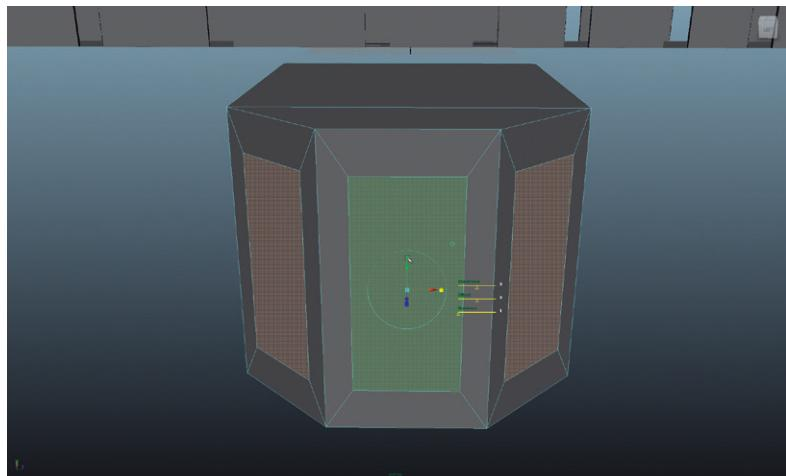

FIG 3.26 Extruding windows.
Step 41: Use the Extrude Tool (and the scale handles of the Extrude manipulator) to create shapes like shown in Fig. 3.26.